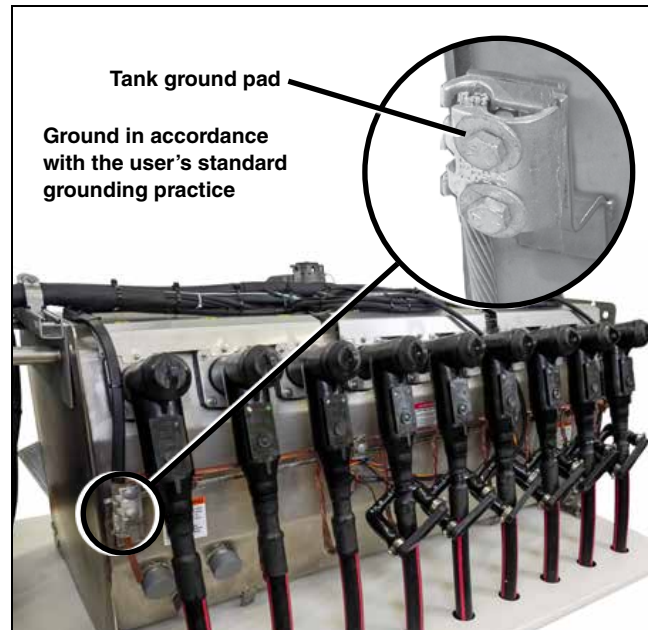

Figure 52. The tank ground pad.
- STEP 1.** Connect the cable concentric-neutral ground wires to the grounding system as appropriate. See Figure 52.